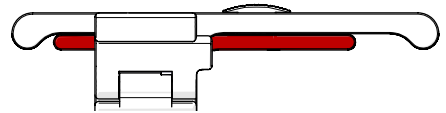
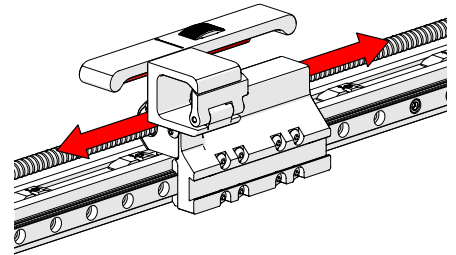

Fig. 40 - Indexing plunger disengaged
Fig. 41 - Carrier moves freely
1. Lift the **1** indexing plunger and move the **2** indexing latch to the left to permanently disengage the indexing plunger (Fig. 40). This will allow the carrier to move freely along the leadscrew (Fig. 41).